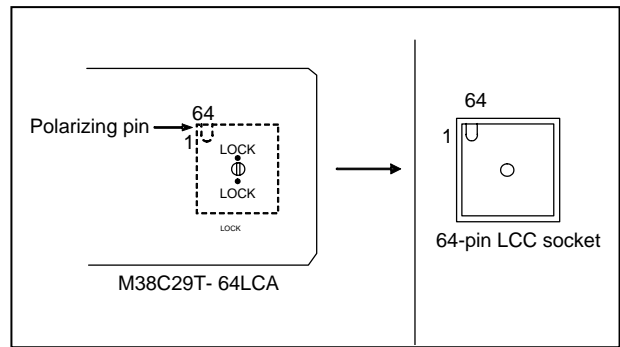

Figure 4 Connecting to the user system
- (1) Set the head of the screw for releasing the LCC socket at "LOCK" on the board as shown in Figure 4. Turn the screw until it clicks.
- (2) Mount the 64-pin header of the M38C29T-64LCA to the 64-pin LCC socket aligning the polarizing pin.
- (3) The 64-pin header and 64-pin LCC socket are rated at 50 mate/demate cycles.